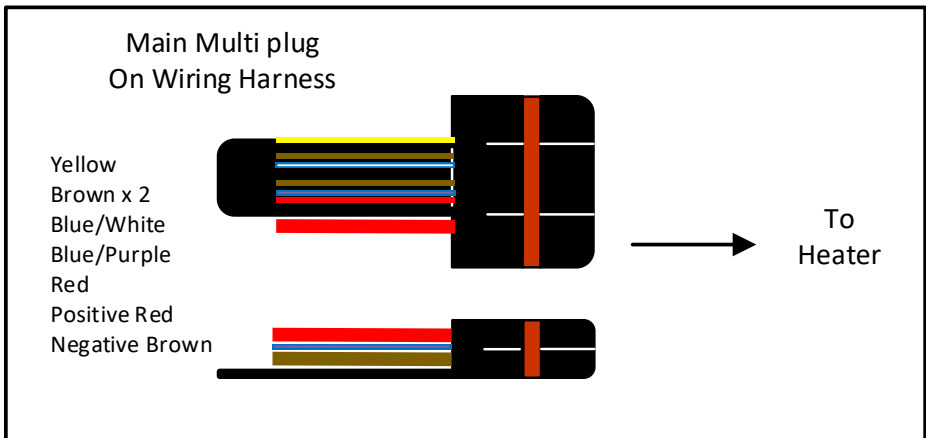
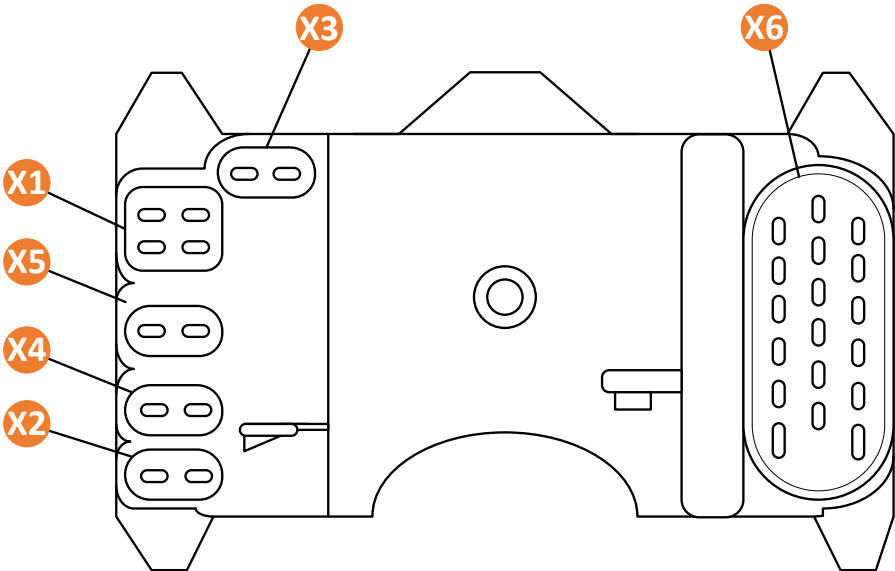

Figure 22
Figure 29
The main connector of both the Airo 2 & 5 heaters inserts into the ECU of the main heater body. To install the main multi plug into the heater, first remove the ECU cover (figure 5 no. 3) using a small flat bladed screwdriver to allow access to the ECU. Plug the multiplug (figure 22) into the X6 of the ECU (figure 29) ensuring the long flat tab faces the ECU. **WARNING:** If inserted incorrectly, the ECU will be destroyed upon initial startup.
Figure 29 shows the correct connections and their wire colours:
- X6: Main Wiring Harness (See figure 22)